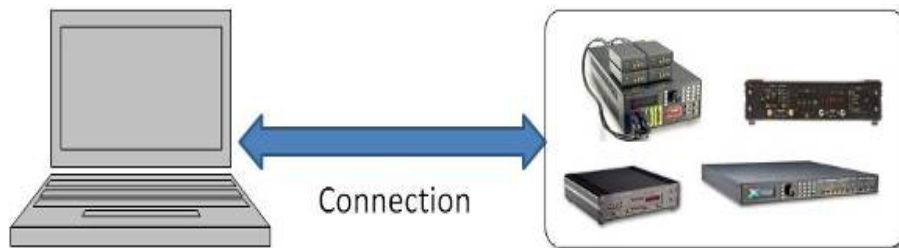

Figure 1. Relationship between software application (installed on the PC) and Keysight Technologies instruments
The software application should be installed on a personal computer (PC) running a Windows operating system (see System Requirements). This PC should be connected to the Keysight Technologies instruments via a physical bus such as USB or GPIB, as shown in Figure 1. The buses supported by N4980A multi-instrument BERT software are listed in Table 3.